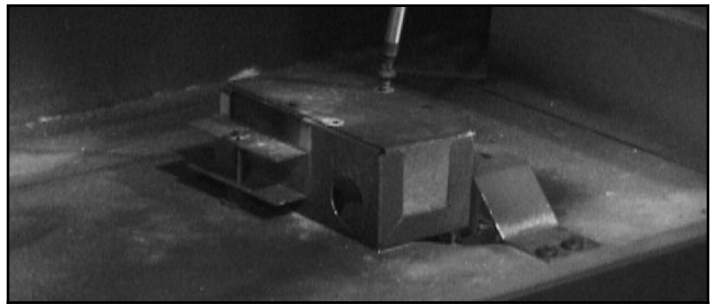

Figure 1.4 Remove the Air Shutter Cover
- For Caliber CD Series remove the two screws so air shutter cover can be removed. See Figure 1.4.